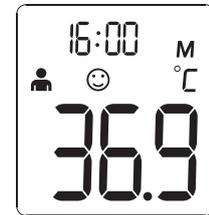

Figure 7
2. The thermometer will automatically memorize the last 30 temperature readings. Each memory also records the measurement date/time/mode icon. Each time the **🔘** *BUTTON* is pressed, the screen displays past readings that correspond with a number 1-30. The number 1 reflects the most recent reading, while the number 30 reveals the oldest reading stored in memory. (See Figure 7)